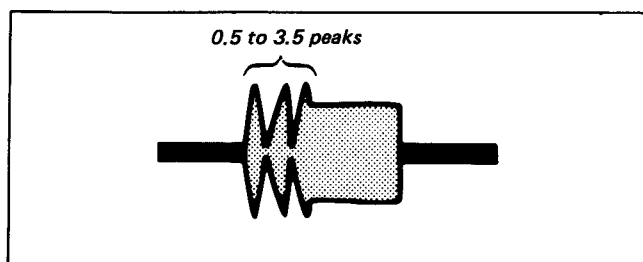

Fig. 8-72.
- 2) Confirm that RF waveform on the entrance side has 0.5 to 3.5 peaks in this condition. If not, adjust as follows. (Fig. 8-72)